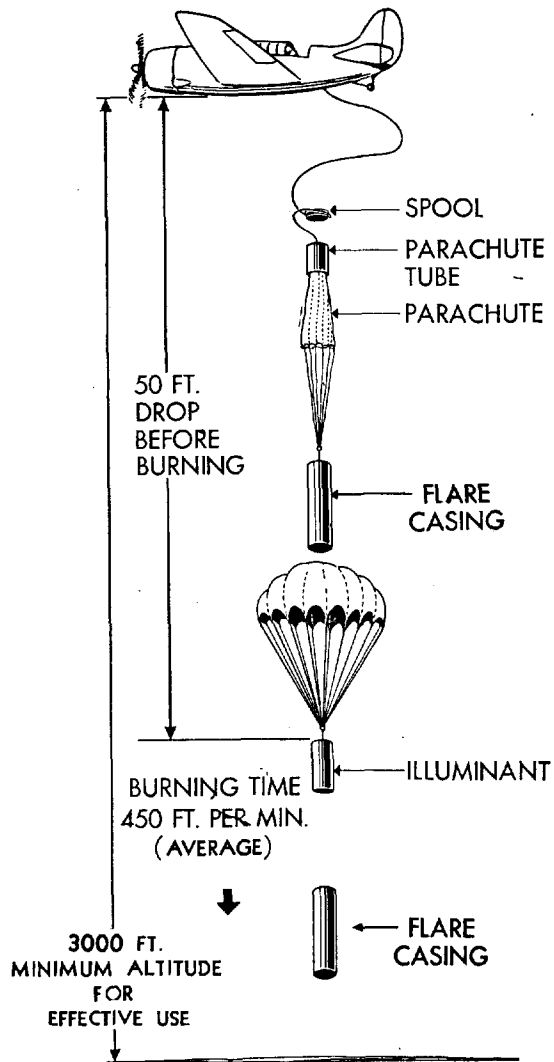
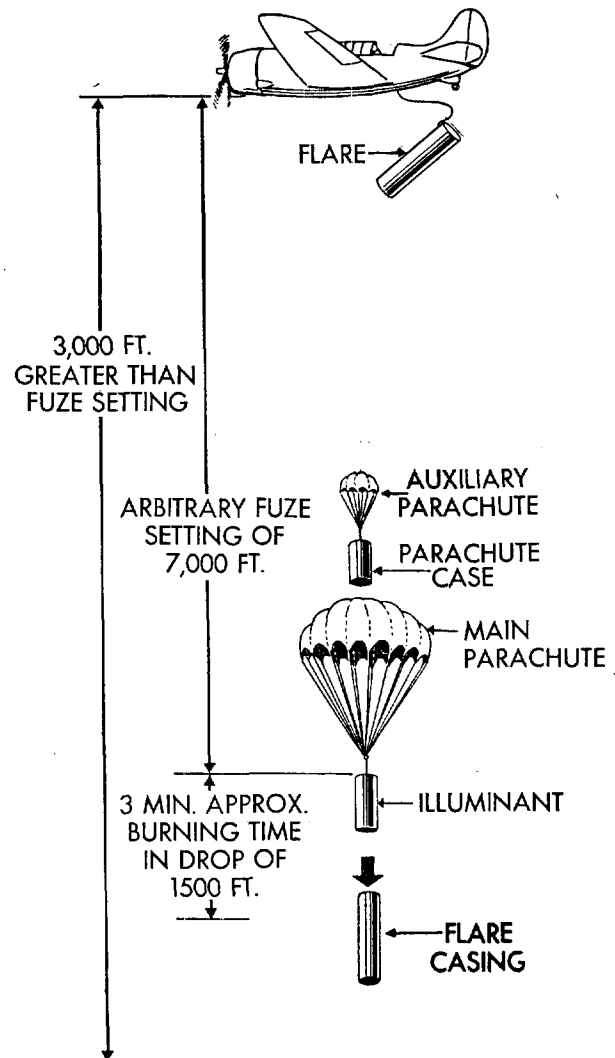

Figure 3—Diagram Showing Aircraft Parachute Flare Mark 4 Operated by a Rip Cord
Figure 4—Diagram Showing Operation of Free Falling Parachute Flare
Service types of aircraft parachute flares issued to the Fleet are of two distinct categories: (1) Those designed to fall a predetermined distance below the launching aircraft before functioning (Fig. 3), and (2) those designed to function as soon as they are clear of the launching aircraft (Fig. 4).